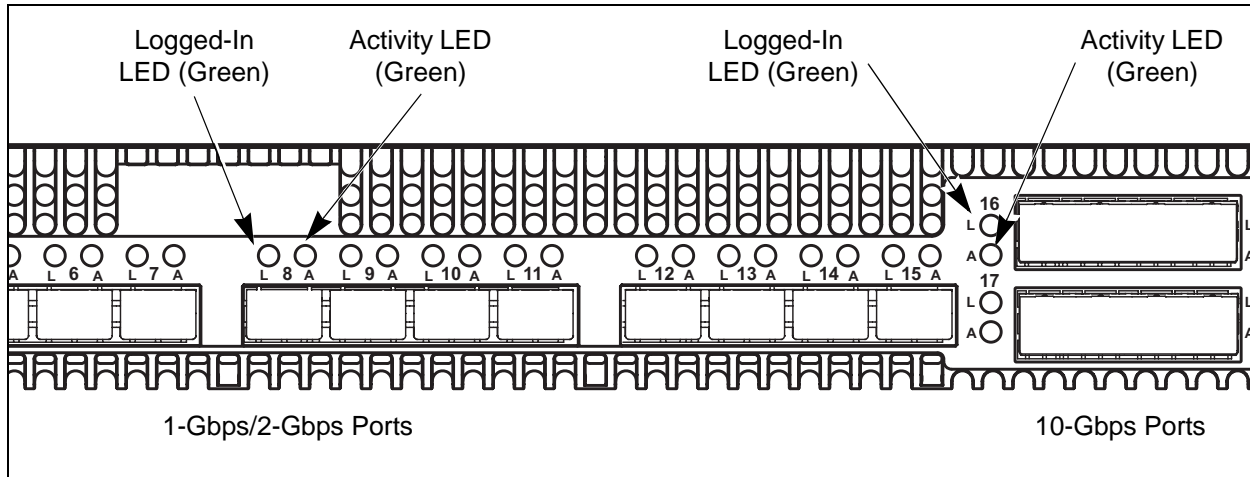

Figure 2-5. Port LEDs
Each port has its own Logged-In LED (L) and Activity LED (A) as shown in Figure 2-5.